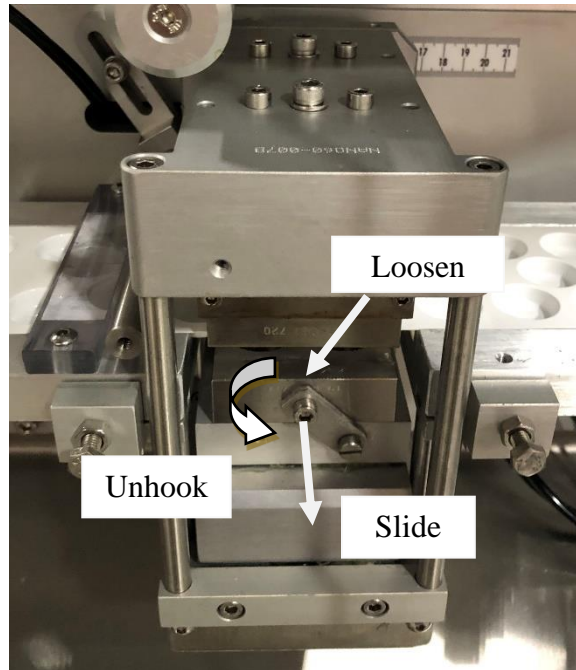

Figure 10
- Lift lower sealing die off (2) dowel pins located on bottom base plate. (Figure 10)